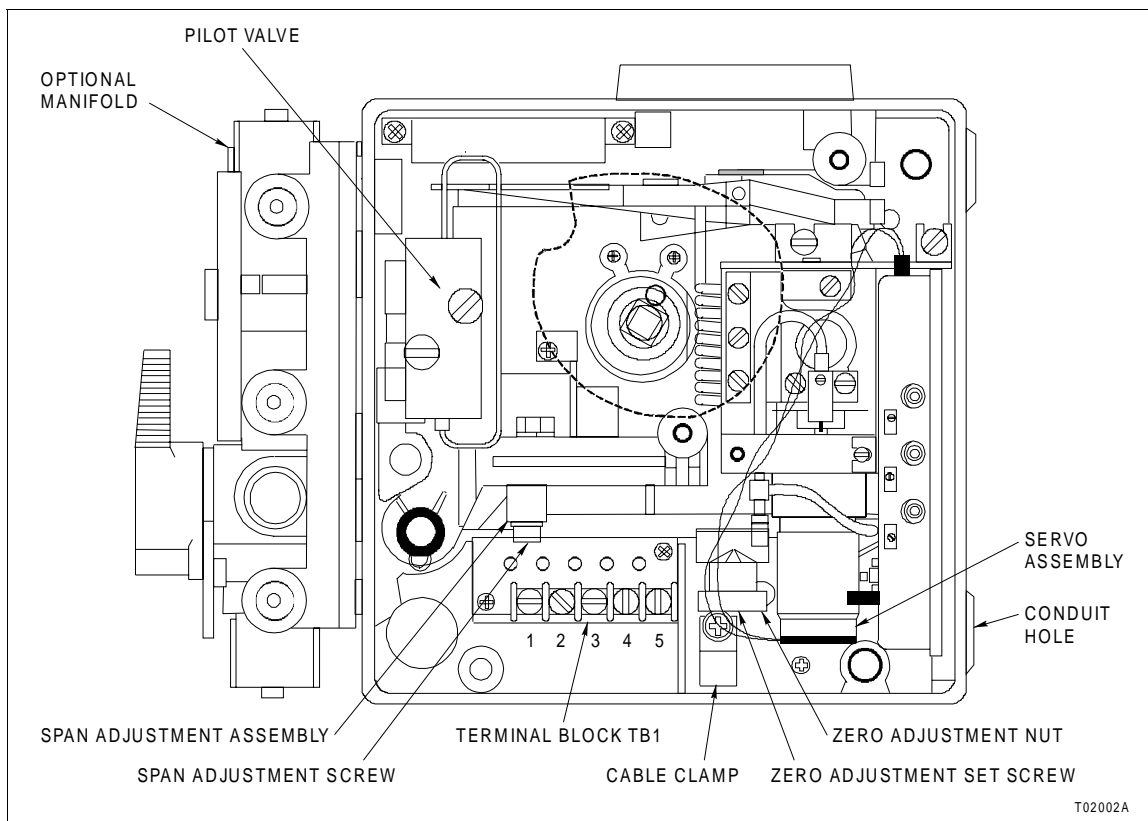

Figure 4-1. Type AV Calibration Adjustment Locations
2. Loosen the zero adjustment set screw (Fig. 4-1) with a $\frac{3}{32}$ -inch Allen wrench.
2. Loosen the span adjustment screw (Fig. 4-1) using a $\frac{5}{32}$ -inch Allen wrench.
3. Slide the span adjustment assembly (Fig. 4-1) in the appropriate direction until the actuator moves to align the 100% radial line with the center of the cam roller (toward pilot valve increases span of actuator).
2. Loosen the zero adjustment set screw (Fig. 4-1) using $\frac{3}{32}$ -inch Allen wrench.